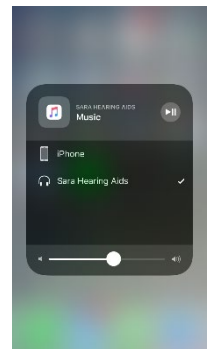

Figure 45
2. Tap the  icon in the upper right corner of the audio card (see orange box) to select the preferred audio source (Figure 45).